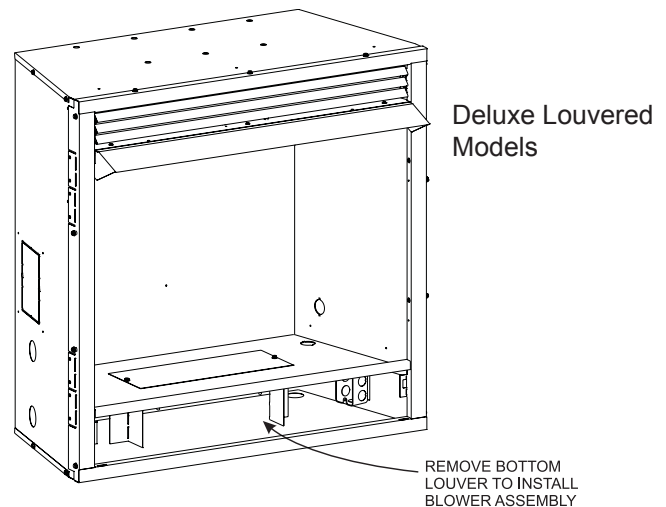

Figure 14
3. Determine which type of firebox you have prior to installation. **See Figures 14 and 15.**